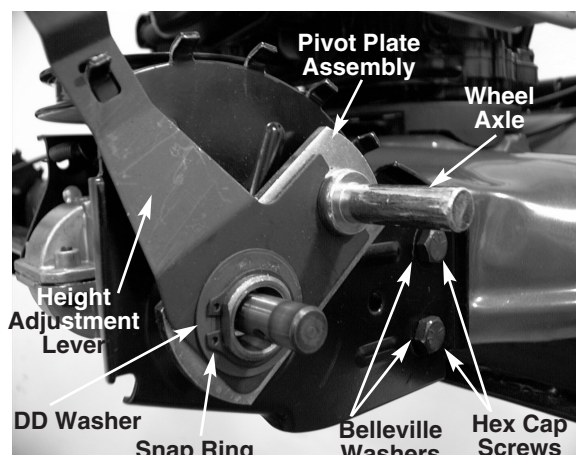

FIGURE 3.
6. Remove both hex cap screws and hex nuts from the left height adjuster using a 9/16 socket and wrench. Take note of which way the bell washers face. The cup side faces the deck. See figure 3.